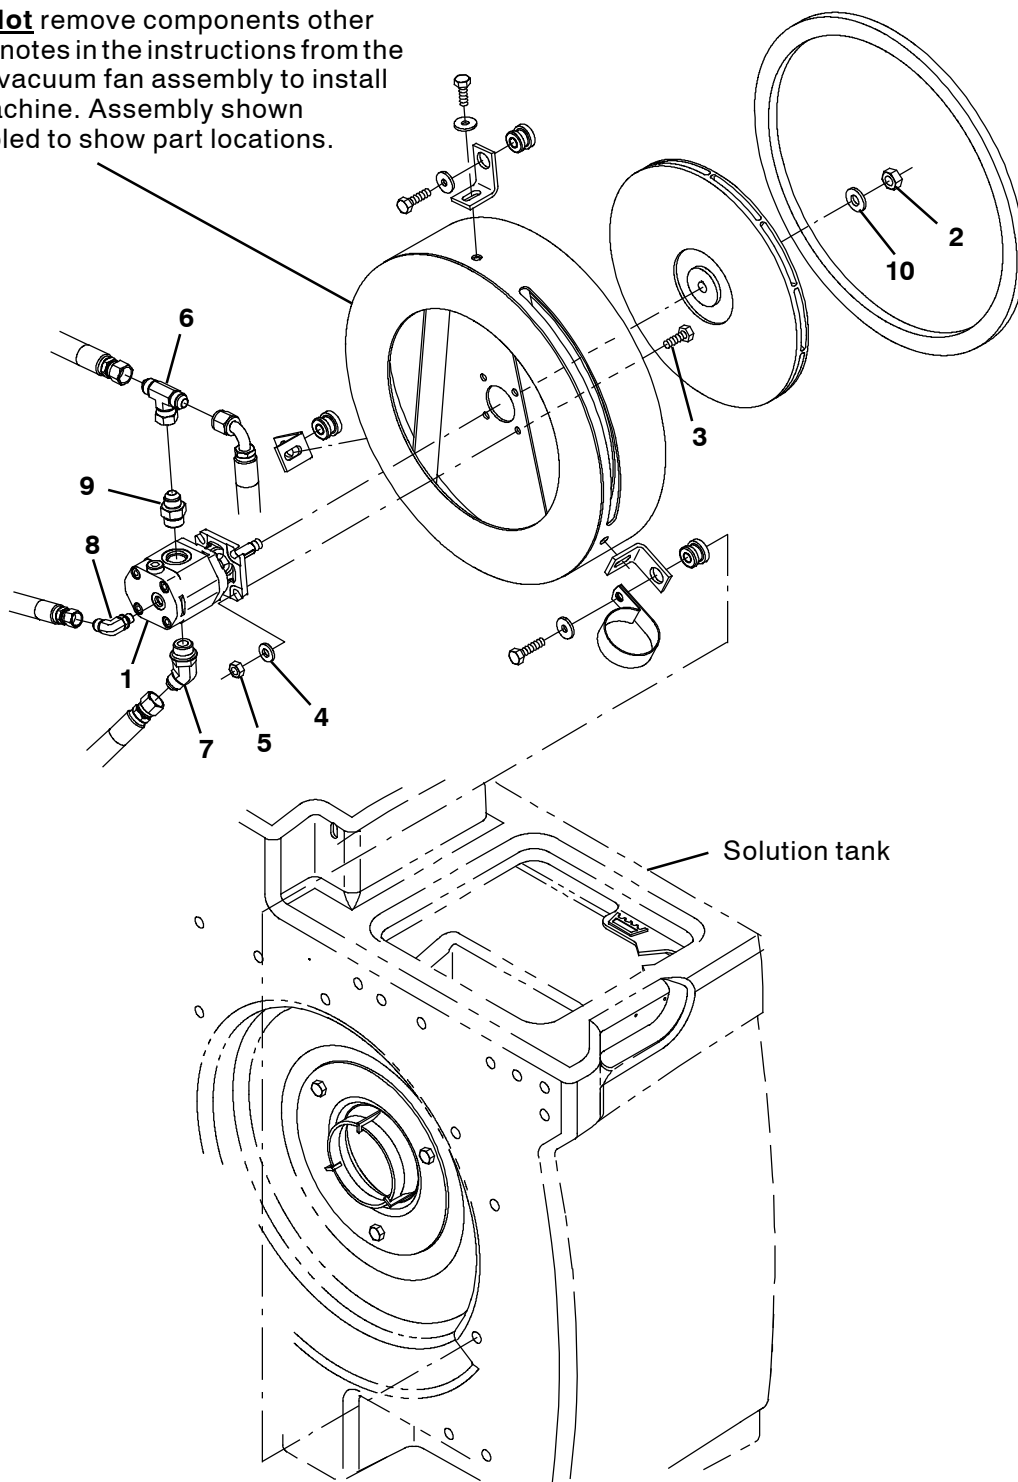

FIG. 9
7. Remove the scrubbing vacuum fan assembly from the solution tank. Set the cable clamp and all hardware aside. (Fig. 9)
8. Remove the scrub fan motor from the scrubbing vacuum fan assembly. Set the vacuum fan assembly and all hardware aside. Discard the scrub fan motor and all fittings installed on the motor. (Fig. 9)
- Pry the impeller from the scrubber vacuum fan. Set the impeller aside. (Fig. 9 / Fig. 11)
- Use four M8 hex screws (3), four washers (4), and four M8 hex nuts (5) to install the hydraulic motor (1) onto the scrubber vacuum fan housing. (Fig. 9)
- Apply a light coat of anti-seize lubricant onto the shaft of the hydraulic motor (1).
- Place the impeller onto the hydraulic motor (1) shaft. (Fig. 9)
- Apply a light coat of Loctite® 242™ onto the threads of the M12 hex nut (2).
- Use the M12 hex nut (2) and Belleville washer (10) to secure the impeller onto the hydraulic motor (1). (Fig. 9)
21. Reinstall the scrub vacuum fan onto the solution tank. (Fig. 9)